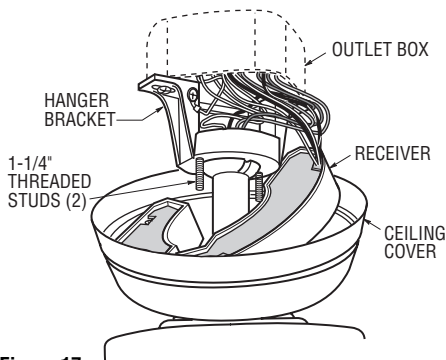

Figure 17
10. Insert the connected ends of the wires up through the open side of the hanger bracket and into the outlet box as shown in Figure 17.